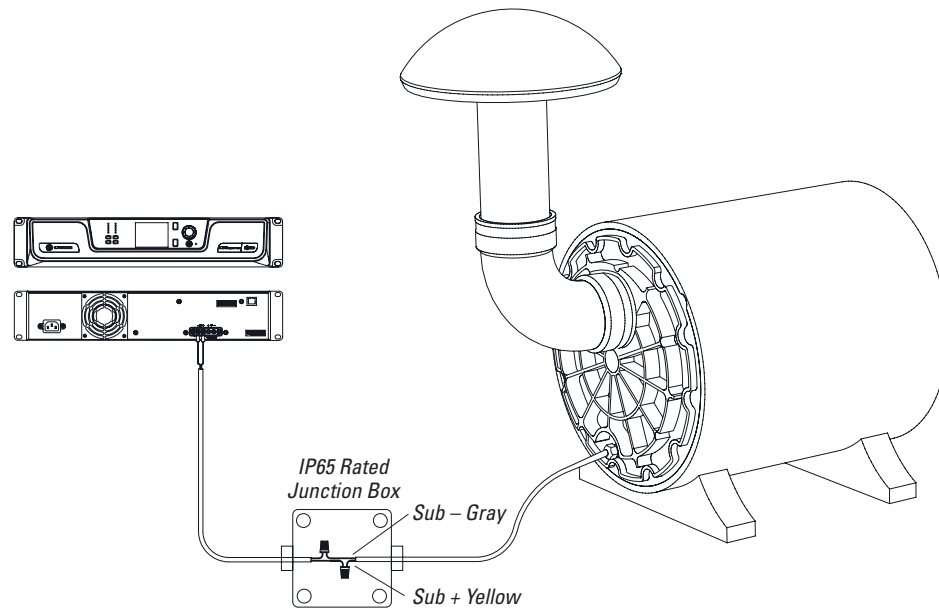

Figure 31
2. Connect the yellow (+) subwoofer pigtail input wire to the (+) wire from the amplifier output, and the gray (-) subwoofer pigtail input wire to the (-) wire from the amplifier output (see Figure 31). Use crimp connectors or wire nuts for the connection. For greater reliability, make the connection inside an underground IP65 waterproof electrical junction box (not included).